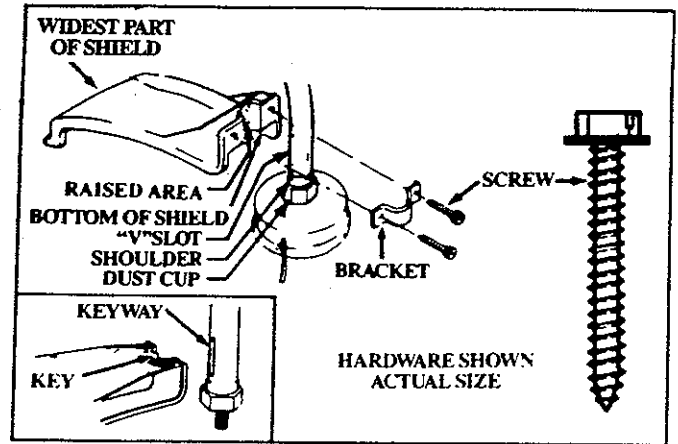

Figure 4
3. SHIELD – Figure 4
Failure to install the shield in the position shown in Figure 4 and 5 can result in serious injury to the operator. The length of the shield must be aligned with the length of the drive shaft housing. Direct the widest part of the shield toward the engine.
- Match the Key (Raised area) on the Shield with the Keyway (“V” slot) on the Drive Shaft Housing. Figure 4(Inset).
- Install the Bracket and Screws as shown in Figure 4.